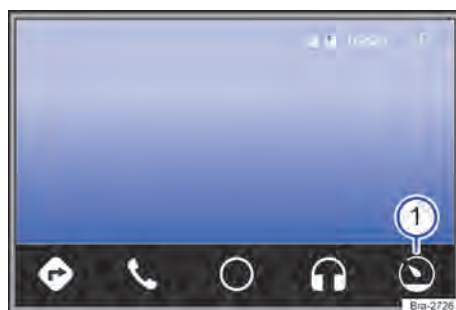

Fig. 117 Android Auto™ Menu
- While using Android Auto™, touch the function button , → Fig. 117 ①.